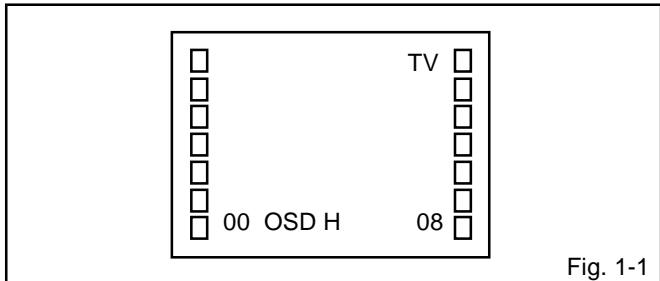

Fig. 1-1
2. Press the VOL. DOWN button on the set and the Channel button (9) on the remote control for more than 2 seconds to appear the adjustment mode on the screen as shown in **Fig. 1-1**.
5. Activate the adjustment mode display of **Fig. 1-1** and press the channel button **(02)** on the remote control to select "CUT OFF".
4. Activate the adjustment mode display of **Fig. 1-1** and press the channel button **(11)** on the remote control to select "R.BIAS".
3. Activate the adjustment mode display of **Fig. 1-1** and press the channel button **(03)** on the remote control to select "H.POSI".
3. Activate the adjustment mode display of **Fig. 1-1** and press the channel button **(29)** on the remote control to select "H. SIZE".
3. Activate the adjustment mode display of **Fig. 1-1** and press the channel button **(07)** on the remote control to select "V.POSI".
3. Activate the adjustment mode display of **Fig. 1-1** and press the channel button **(06)** on the remote control to select "V.SIZE".
3. Activate the adjustment mode display of **Fig. 1-1** and press the channel button **(08)** on the remote control to select "V.LIN".
3. Activate the adjustment mode display of **Fig. 1-1** and press the channel button **(31)** on the remote control to select "TRAPEZIUM".